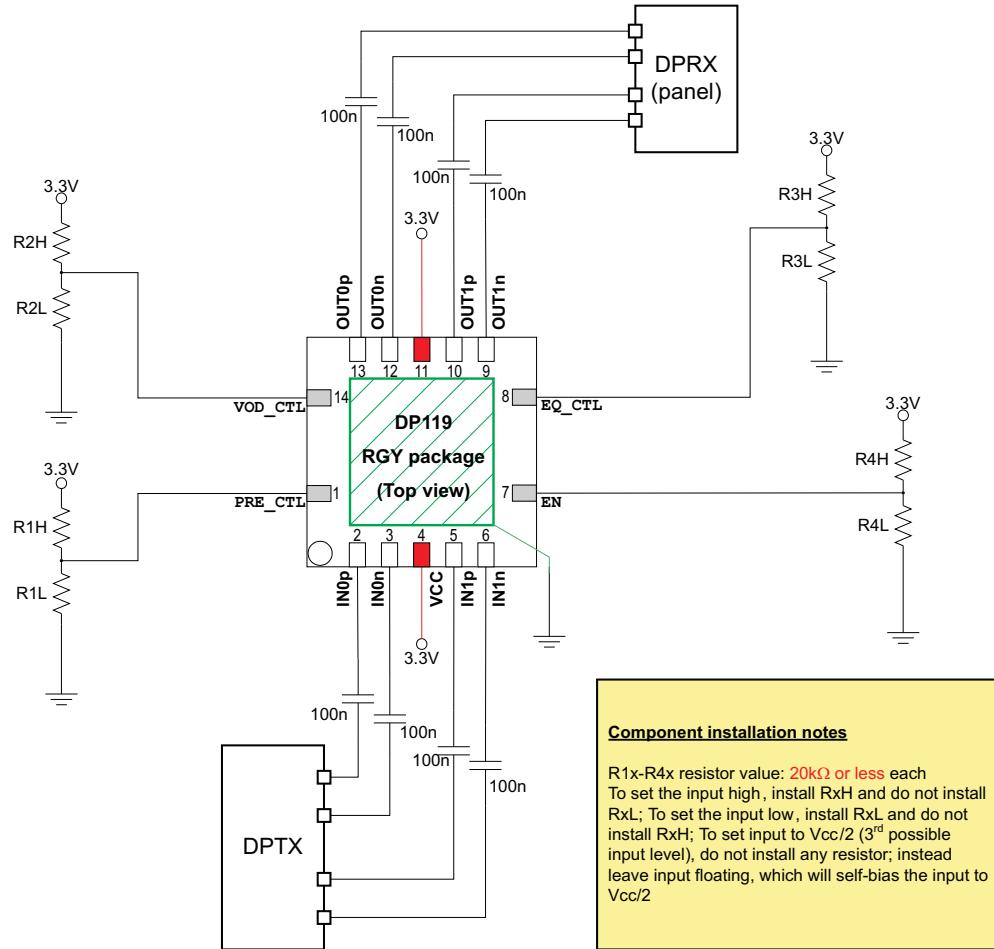

Figure 9. Simplified Schematic drawing
Figure 9 provides a simple schematic reference for the 14-pin package. In addition to this schematic sufficient VCC decoupling for the 3.3V power supply is necessary.
- Use the typical application drawing, Figure 9, for information on using the AC coupling caps and control pin resistors.